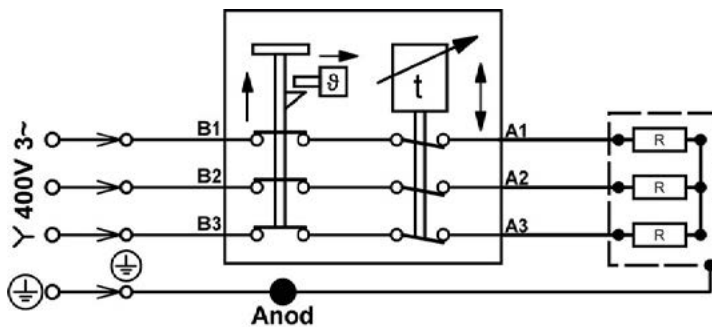
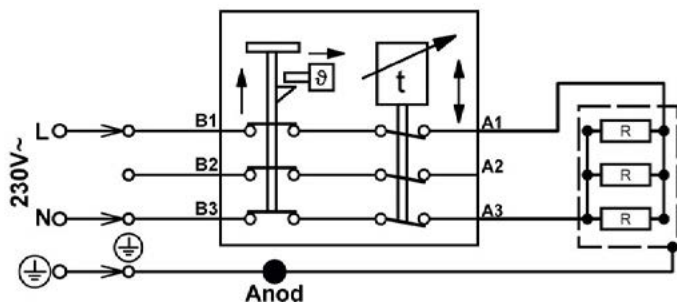

Figure 3
Figure 5
2. Connection to the mains via terminals B1, B2 and B3 of the thermostat (see "Figure 3" to "Figure 5", page 17).
4. For a 400 V Tri supply without neutral, modify the internal connections by following the wiring diagram in "Figure 3", page 17.